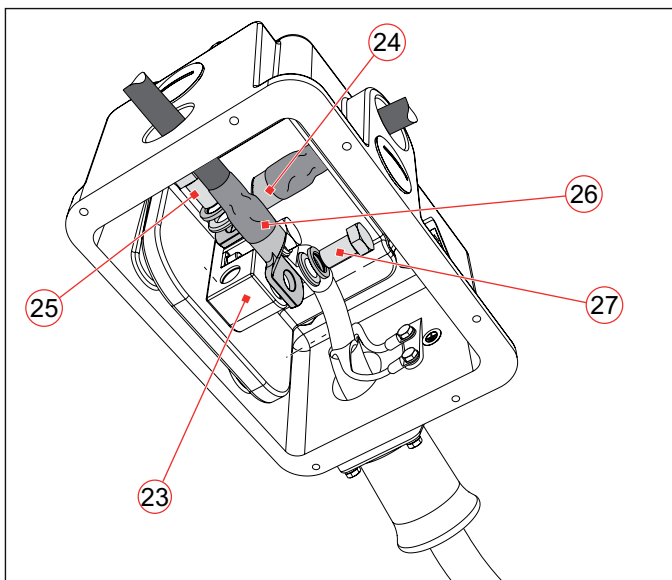

Fig. 24: Example for the connection of junction cable and train bus bar with a vertical connecting piece
- ▶ Screw the cable lug of the junction cable (like shown for example in *Fig. 24/24*) with screw, washer a spring lock washer (25) to the connecting piece (23).
- ▶ Screw the cable lug of the train bus bar (like shown for example in *Fig. 24/26*) with screw, washer and spring lock washer (27) to the connecting piece (23).